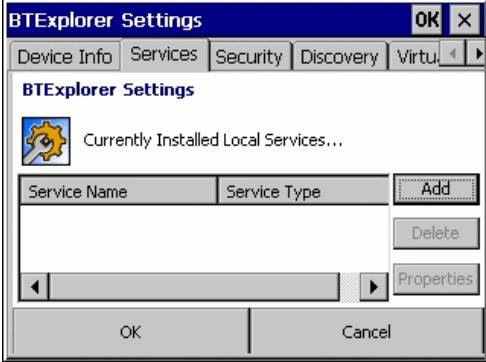

Figure 2-129 BTExplorer Settings Screen
2. Select **Add** in Figure 2-129 and choose a service from the list.